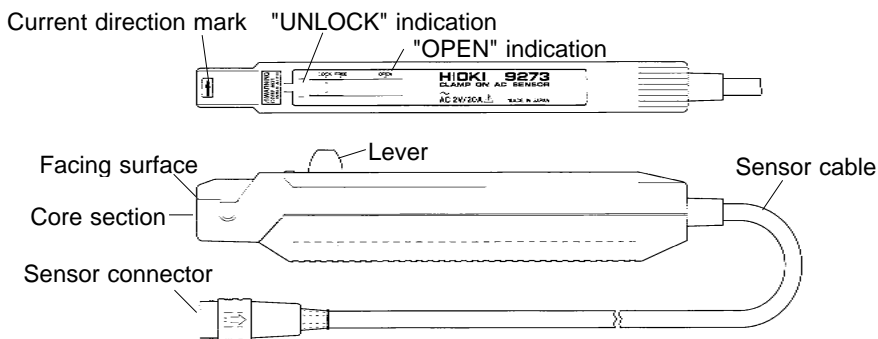

Figure 2 9273 Identification of Indicators
- (1) Select both ranges of the 3270 and the measuring equipment according to the input current value. (Refer to Table 1 in Section 1.4.3.3.)
- (2) Set the coupling switch to AC.
- (3) Pull the lever of the sensor towards the "OPEN" indication to open the core section. (Refer to Figure 2, 9273 Identification of Indicators.)
- (4) Position the sensor so that the current direction mark on the sensor part points in the direction of the load and so that the conductor being measured is centered, and then close the core section with the lever.